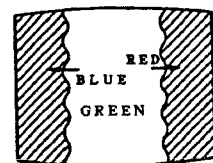

Fig. 4
4. Move the deflection yoke backward, and adjust with the purity control so that green is in the center and red and blue are at the sides evenly. (Fig.4)